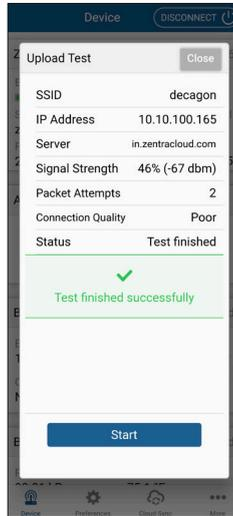

Figure 22 Upload test showing Wi-Fi information
- Communications Tab (Figure 22):